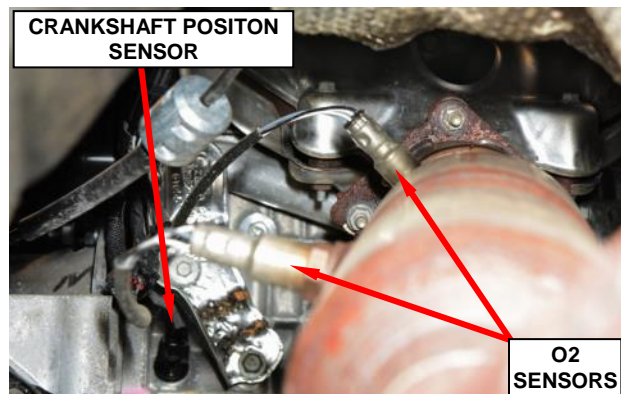

Figure 12 – Crankshaft Position and O2 Sensors
37. Disconnect the 1/2 downstream Oxygen (O2) sensor electrical connector that is accessible from below the vehicle (Figure 12).
38. Disconnect the crankshaft position sensor electrical connector located on the right side of the engine near the transmission bell housing and below the exhaust manifold (Figure 12).